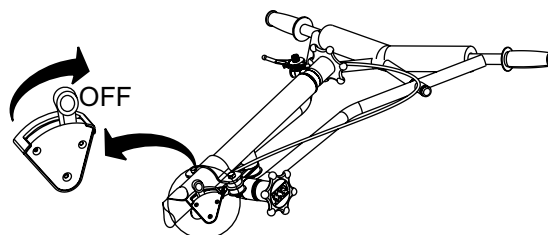

Figure 26. Testing Safety Stop Switch
1. With the engine running at idle, place the safety stop switch lever in the "**OFF**" position (Figure 26). Verify that the engine shuts off. If the engine continues to run, replace centrifugal safety stop switch.